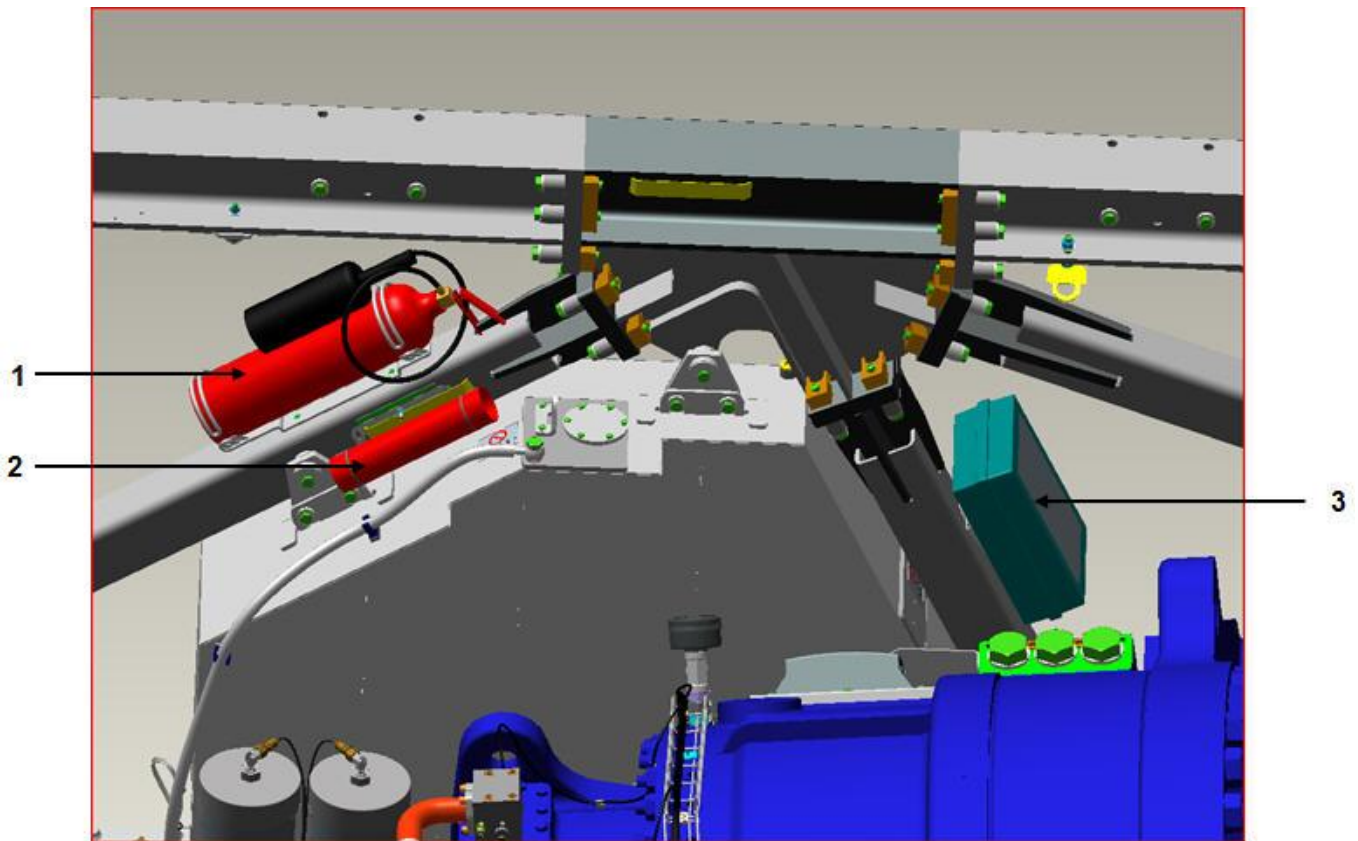

Figure 4-2: Locations of standard safety equipment inside the nacelle
1. Attach the universal bracket for the fire extinguisher to the left rear frame structure near the gearbox gravitation tank as shown in position 1 in Figure 4-2, p. 9.
1. Place the first aid kit on the left rear frame structure near the gearbox gravitation tank as shown in Figure 4-2, p. 9.